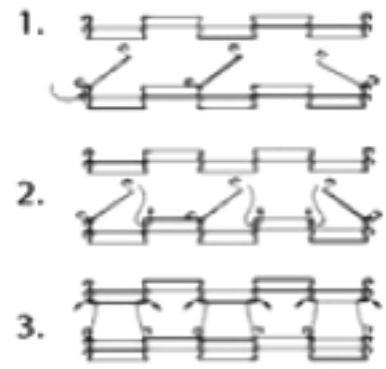

Fig 2. Master Links Removal & Installation
2. Perform daily and weekly cleaning procedures. Follow the step 1 in Fig 2, to remove all of the master links. To remove, unhook each end of one link and bring the two ends together, and un-thread. Once detached, re-hook onto itself so not to get damaged.
8. Reinstall the previously removed master links as shown in step 2 & 3 in Fig.2. Unhook the last link of the conveyor, farthest away from you, and re-thread through the other end, and reconnect back onto itself.